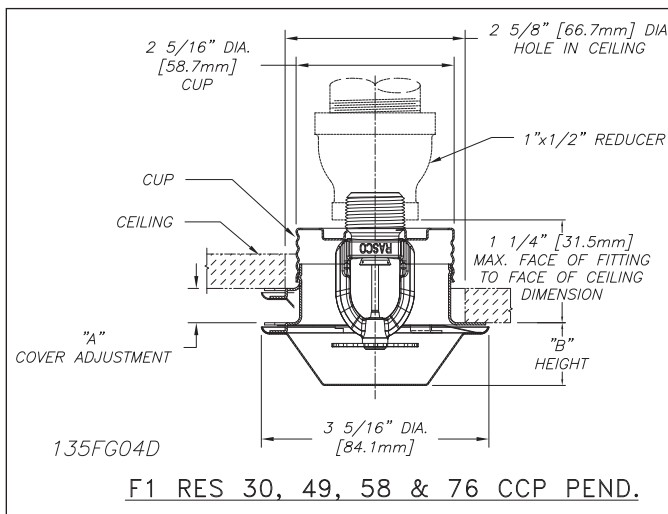
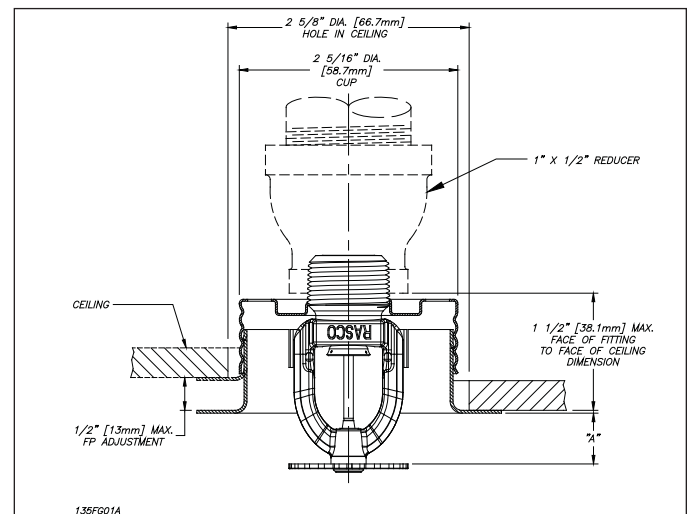

Fig. 3
Fig. 4
**Note:** Sprinklers shown in Fig. 3 and Fig. 4 are not suitable for installation in ceilings which have positive pressure in the space above.